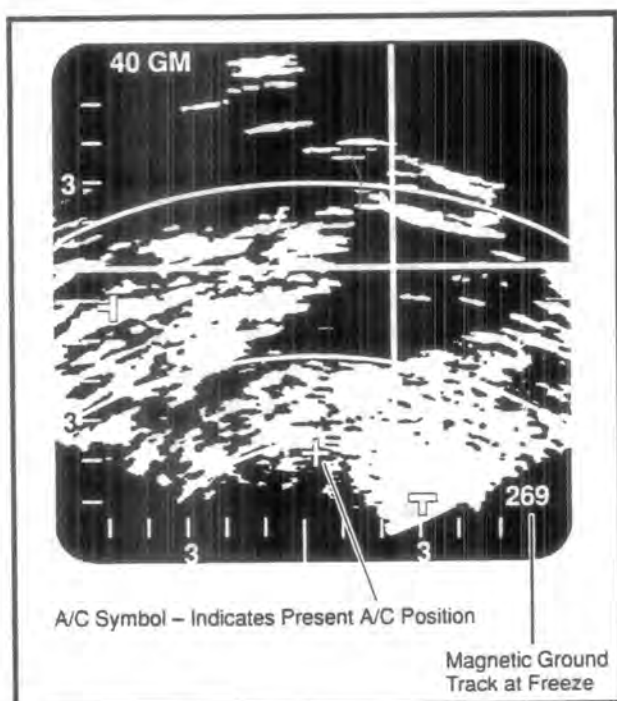

Figure 7-29 Typical Freeze Display
7.227 The Freeze mode is available in both expanded and unexpanded GM. When in Freeze mode the video is not updated. An ownship bug is shown on the map at the INU derived aircraft position. Aircraft magnetic track at freeze is shown in the bottom right corner. A typical GM Frozen display is shown in Figure 7-29.